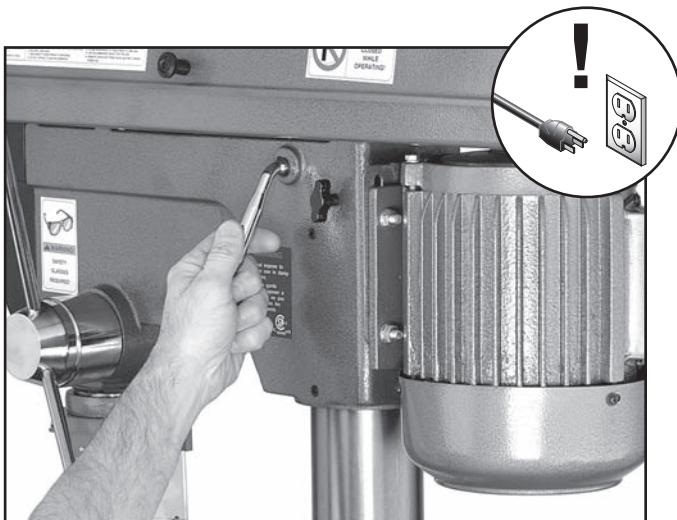

Figure 28. Using the belt tension lever.
3. Rotate the belt tension lever counterclockwise, as shown in **Figure 28**, to take tension off the V-belts.